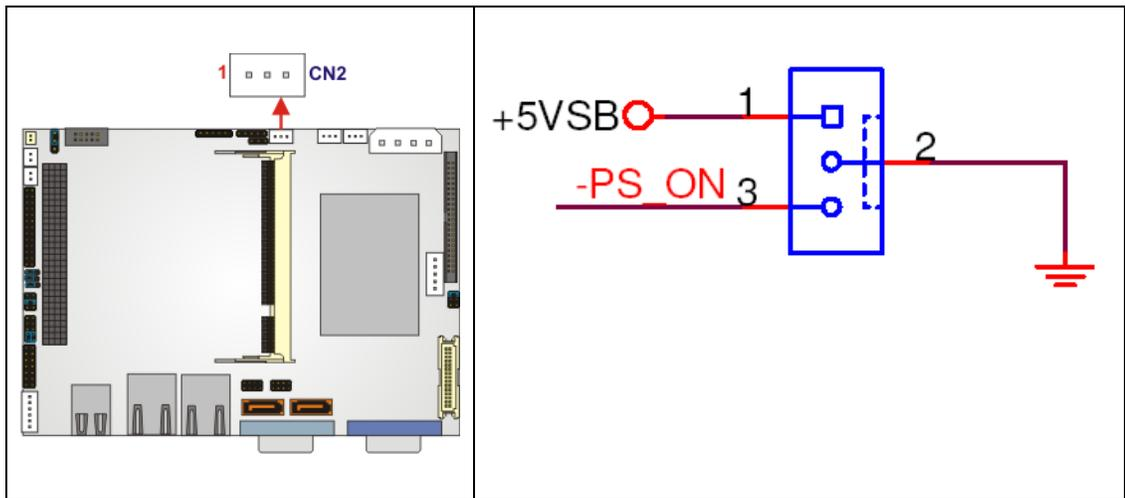

Figure 3-3: +5VSB PS_ON Connector Location
- CN Location:** See **Figure 3-3**